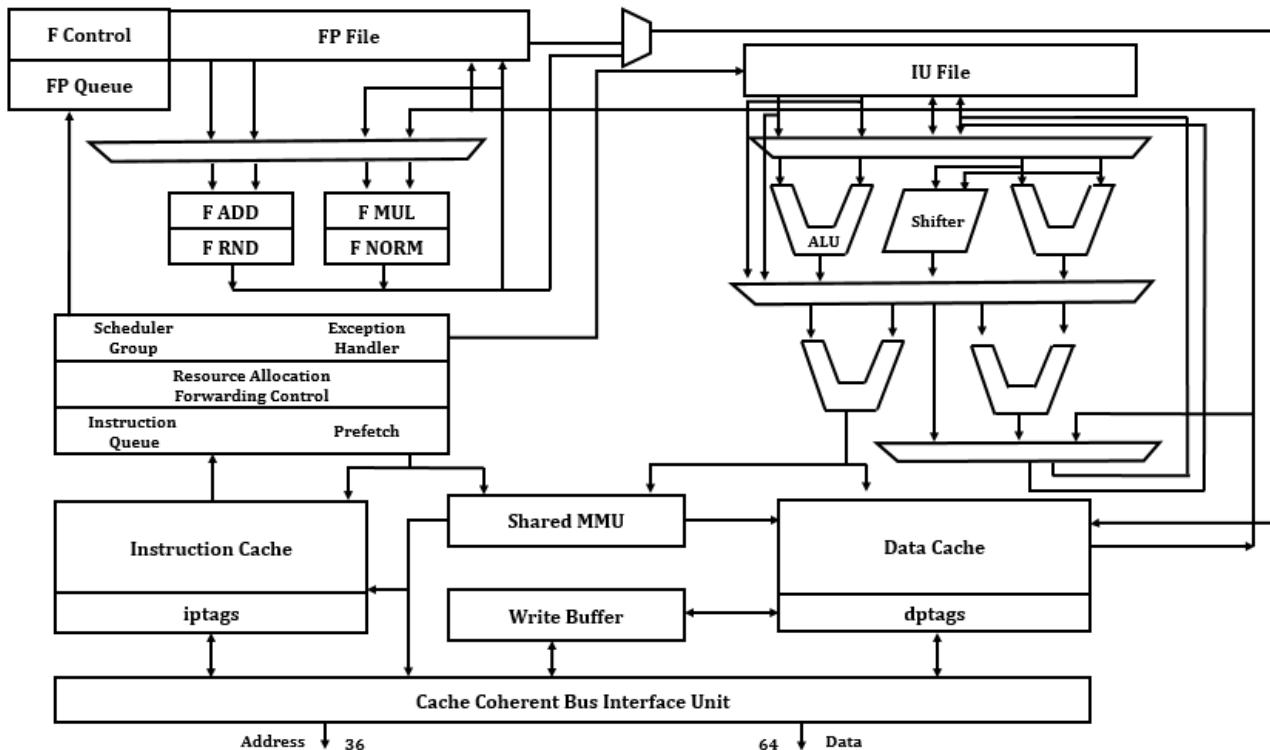

Figure 6.1: SuperSPARC Architecture.
- Figure 6.1 shows the SuperSPARC Architecture.